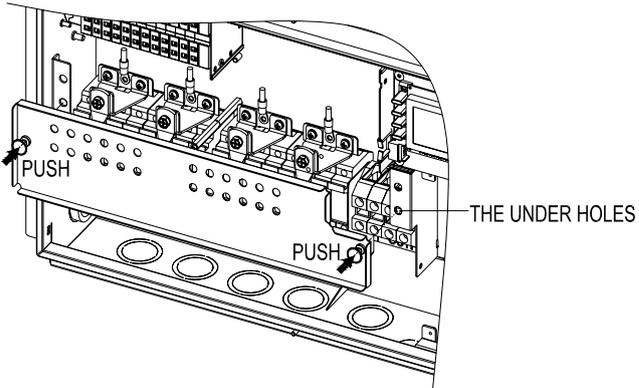

Figure A-6
4. Use No. 10 wrench to screw DC input cable on the bypass input terminals, torque value of 6.0N.m.(see Figure A-6)